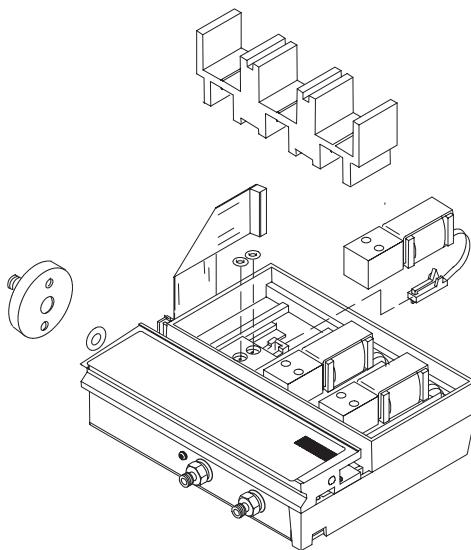

Figure 240-27 EPC module serviceable parts
8. If the leaky component is serviceable, such as a vent/inlet fitting (see diagram of serviceable parts, Figure 240-27), replace it. Otherwise, replace the EPC module.